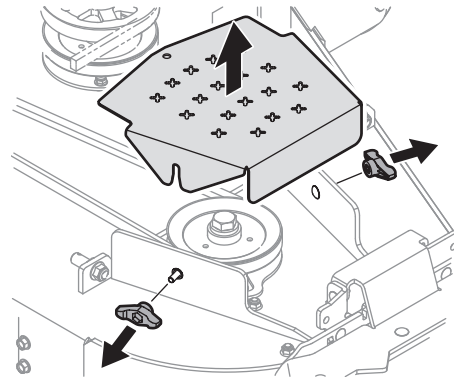

Fig. 19
- Clean the top of the mower deck, under the spindle covers and belt area (Fig. 19).